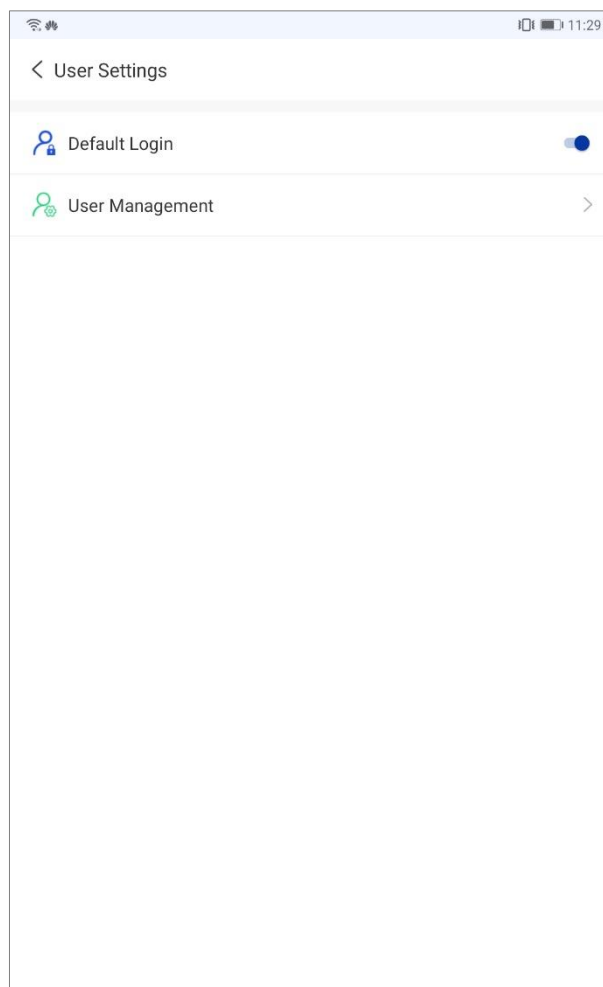

Figure 5-13. Setting Interface – User Settings
1. **User Settings:** intended to set the login user of the current application software, as shown in figure 5-13.